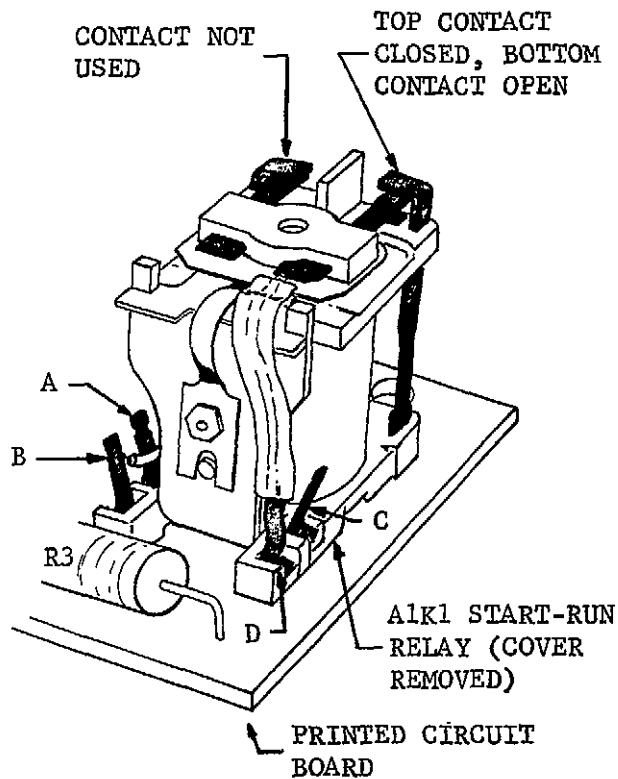

FIGURE 5-19. START-RUN RELAY A1K1
3. If unit stops with 100-watt load, move toggle switch to "OFF" position. Remove cover from A1K1 printed circuit board. Connect a jumper wire from terminal C of relay A1K1 to the ground terminal in the Control-O-Matic. Move toggle switch to "AUTO". Unit should start and run. If it does not, remove relay to check continuity of relay coil terminals A, B and C of 307-1087. Resistance A-C equals approximately 34 ohms. See Figure 5-19.
4. Take out the printed circuit board and remove the cover from the start-run relay A1K1 (marked "K1" on board). See Figure 5-19 for references during tests.
- a. With the VOM set at x10, measure resistance between A and B — should be approximately 34 ohms. Resistance between A and C or B and C should be approximately 650 ohms (x100 scale). As shown in Figure 5-19, the top K1 contact should be closed, the bottom contact open. There should be continuity between the top contact and point D.